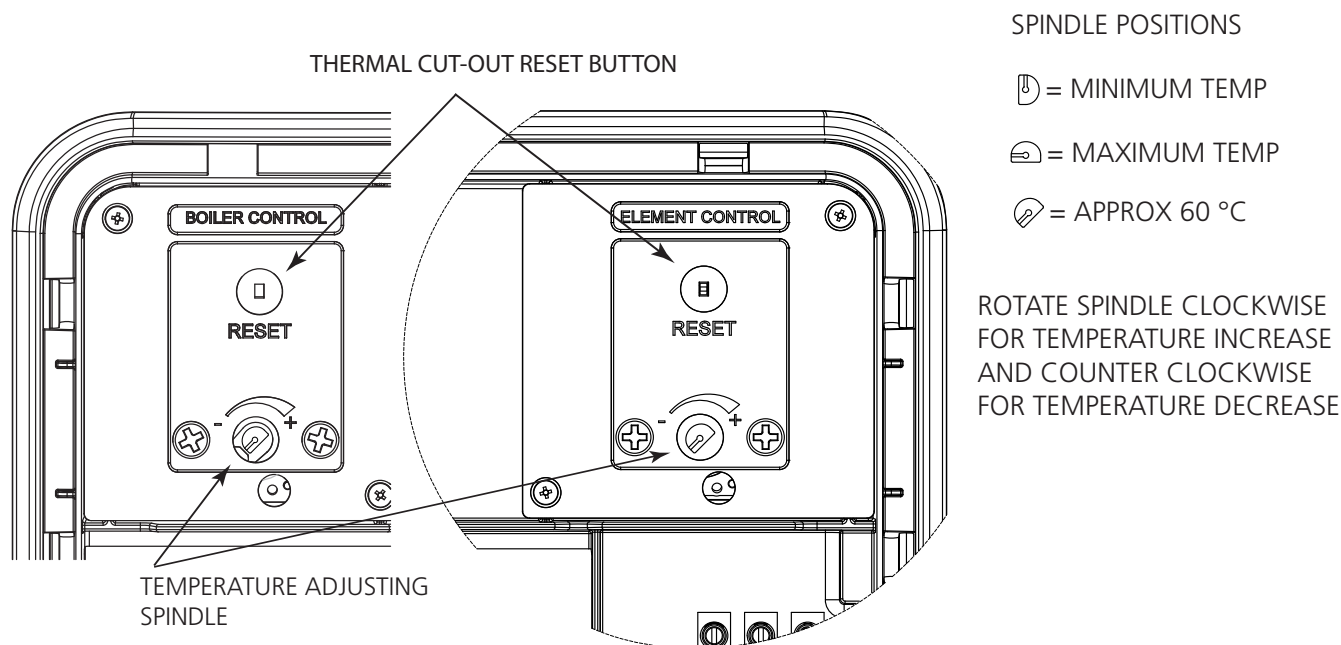

Figure 14: Thermostat adjustment
- ▶ The immersion heater thermostat is factory set at 60°C. Should this require adjustment see Fig 14 for details of how to adjust the temperature setting. Each immersion heater has its own individual thermostatic control. The thermostat incorporates a thermal cut-out that will switch off the immersion heater in the event of a thermostat failure. The thermal cut-out reset button position is also shown on Fig 14.
- ▶ The immersion heater and indirect control thermostats are factory set at 60°C. Should this require adjustment see Fig 14 for details of how to adjust the temperature setting. The immersion heater and indirect controls each has its own individual thermostatic control. The thermostats incorporate a thermal cut-out that will switch off in the event of a thermostat failure. The thermal cut-out reset button position is also shown on Fig 14.
- ▶ If necessary the temperature can be adjusted by inserting a flat bladed screwdriver in the adjustment spindle on front of the indirect (BOILER) thermostat and rotating (see Fig. 14, page 20 for details of how to adjust). The adjustment represents a temperature range of 10°C to 70°C.
- ▶ If necessary the temperature can be adjusted by inserting a flat bladed screwdriver in the adjustment spindle on front of the immersion heater (ELEMENT) control thermostat and rotating (see Fig. 14 page, 20 for details of how to adjust). The adjustment represents a temperature range of 10°C to 70°C.
- ▶ Temperature adjustment is made by rotating the adjustment knob on the top of the thermostat. The adjustment represents a temperature range of 10°C to 70°C (see page 20, fig 14 for method of adjustment).